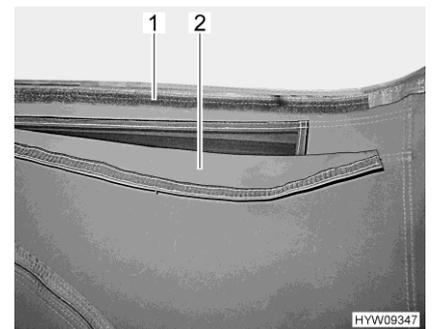

Fig. 38 Ventilation (opened)
- Pull the fabric flap (Fig. 38,2) upwards and press down the Velcro strap (Fig. 38,1).